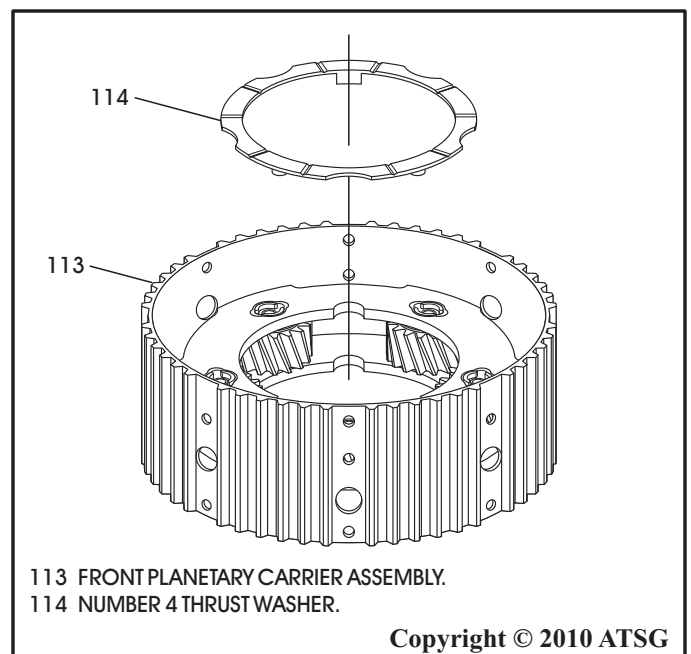

Figure 141
7. Install number 4 thrust washer on back side of front planetary carrier, as shown in Figure 141, and retain with Trans-Jel®.